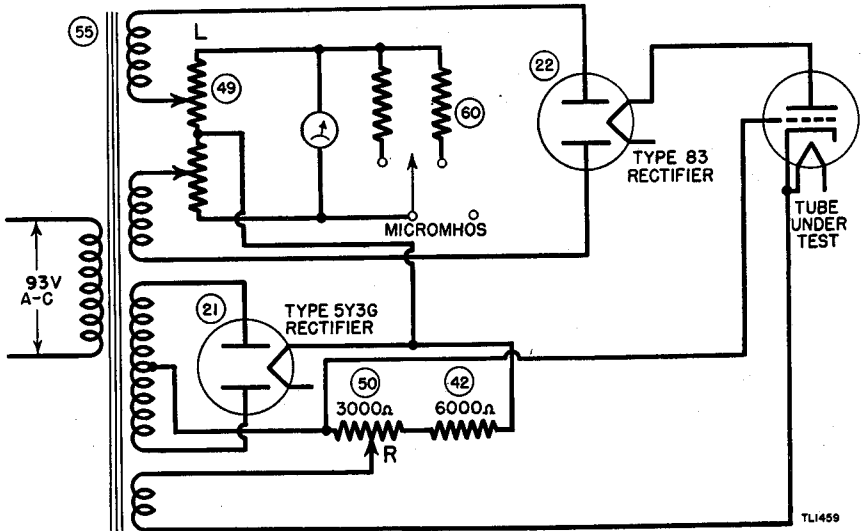

Figure 6. Tube Tester I-177, simplified quality test circuit.
18. QUALITY TEST FOR AMPLIFIER TUBES (fig. 6).